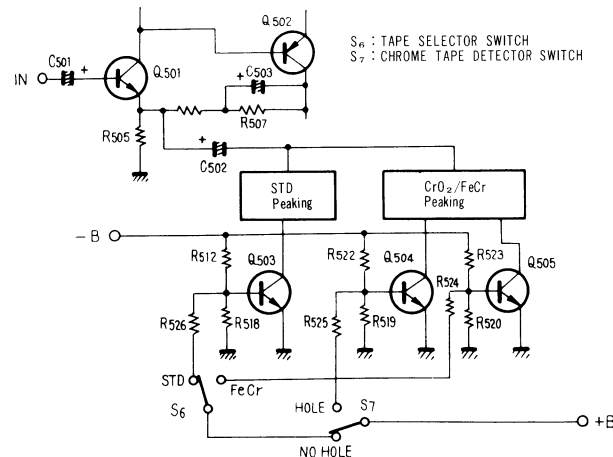

Fig. 8 Recording equalizer changeover circuit
• Recording Equalizer (Peaking) Switching Circuit (Fig. 8)